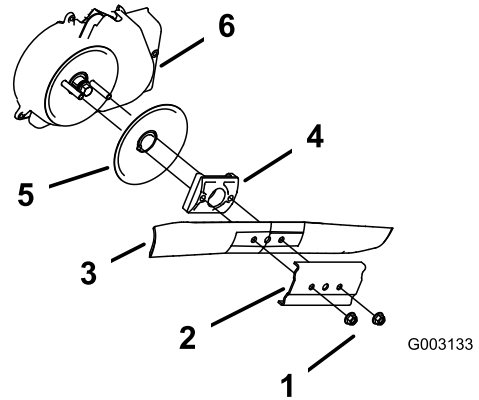

Figure 46
3. Remove the 2 blade nuts and the stiffener (Figure 46).
4. Remove the blade (Figure 46).
5. Remove the blade driver and the anti-scalp disk (Figure 46).
6. Remove the blade-stop system shield (Figure 46).
10. Install the blade and the stiffener with the 2 blade nuts that you previously removed (Figure 46).